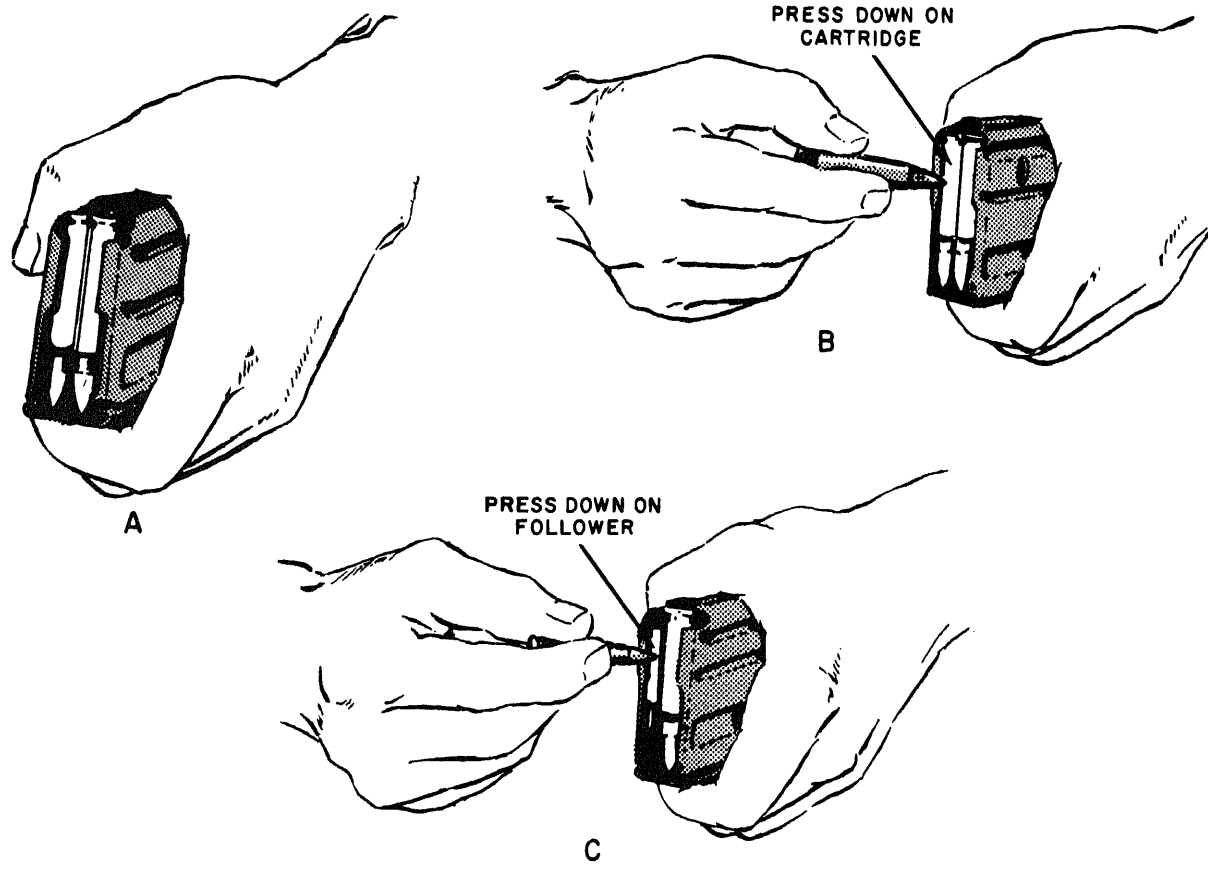

Figure 4-22.—Unloading the magazine with the nose of a cartridge.
1. Hold the magazine in the left hand with the open end away from your body and the magazine open (view A, fig. 4-22).
2. Using the nose of the cartridge, depress the center of the second round in the magazine, allowing the first round to drop out of the magazine (view B, fig. 4-22). Repeat this procedure until you remove all the rounds from the magazine except the last one.